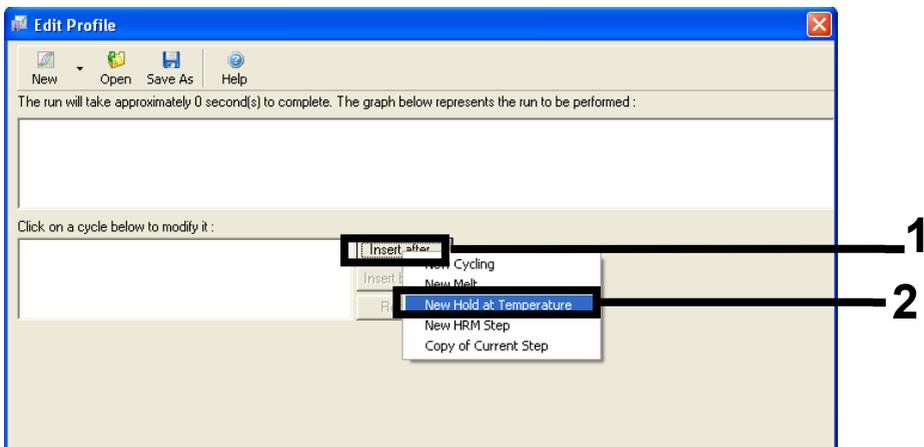

Figure 12. Inserting an initial incubation step. 1 = "Insert after," 2 = "New Hold at Temperature."
6. Click "Insert after" and select New Hold at Temperature (Figure 12).